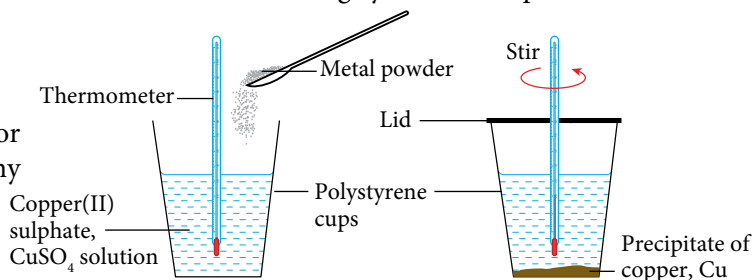

Figure 3.9 Determining the heat of displacement of copper
- Based on Figure 3.9, list down the suggested apparatus and materials, plan the procedure for the experiment and consider any precautionary steps that need to be taken to calculate the heat of displacement of copper, Cu.